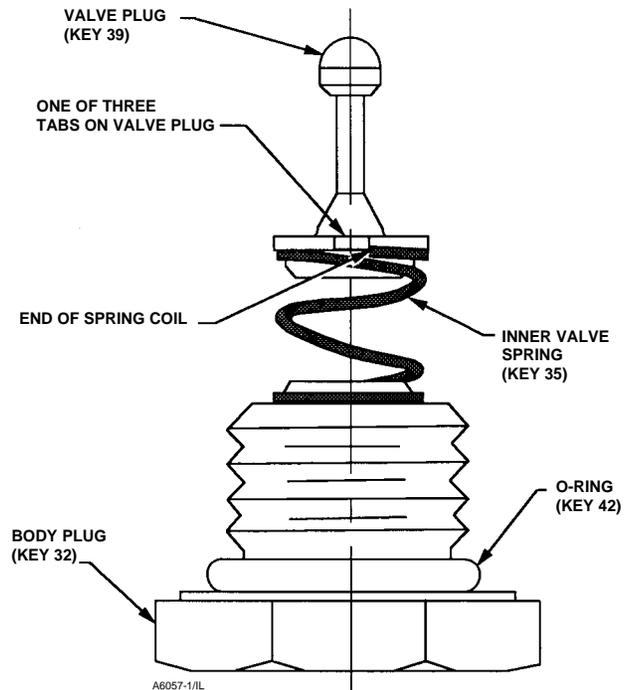

Figure 12. Valve Plug, Inner Valve Spring and Body Plug Assembly
Refer to figures 12 and 14 for key number locations.
1. Assemble the inner valve spring (key 35) onto the body plug (key 32) and fit the valve plug (key 39) onto the inner valve spring as shown in figure 12. To assure best alignment between the valve plug, inner valve spring, and body plug; fit the valve plug onto the inner valve spring so that one of the three tabs at the base of the valve plug sets at the end of the last coil of the inner valve spring.
2. Lubricate the O-ring (key 42) with a silicone sealant (key 37). Insert the assembled valve plug, inner valve spring, and body plug into the relay body (key 41). Compress the spring and thread the body plug (key 5) into place. Then, tighten the body plug.
3. Insert two of the mounting screws (key 36) into two opposite holes of the relay body (key 41). Hold the screws in place while assembling the following parts on the relay body. The screws serve as studs to align the parts as they are being assembled.
4. When replacing the exhaust port assembly (key 33), make sure all passages and screw holes are aligned and that the hole in the center of the exhaust port assembly fits over the valve plug (key 39). Place the exhaust port assembly on the relay body (key 41). Hold assembled parts in place.
5. Make sure the tabs on the body block (key 40) align with the tabs on the relay body (key 41) and that the side with 5 holes faces the relay body. Place the body block on the assembled parts. Hold assembled parts in place.
6. When replacing the input diaphragm (key 38), make sure all passages and screw holes are aligned. Place the input diaphragm on the body block (key 40). Hold assembled parts in place.
7. Install the bias spring (key 34) into the transducer housing assembly (key 1). Make sure the tabs on the body block and relay body align with the tab on the transducer housing assembly. Place the assembled parts onto the transducer housing assembly. Thread the two mounting screws (key 36) into the transducer housing assembly. Install the remaining two mounting screws. Tighten all mounting screws to 2 N•m (20 lbf•in).